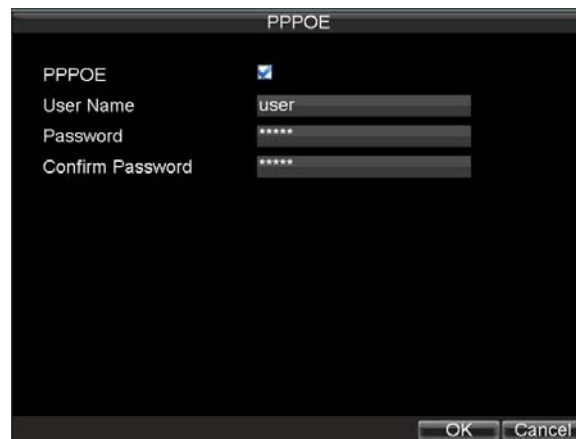

Figure 5. PPPoE Settings
4. Click the Set button next to **PPPoE** to enter PPPoE settings menu, shown in Figure 5.